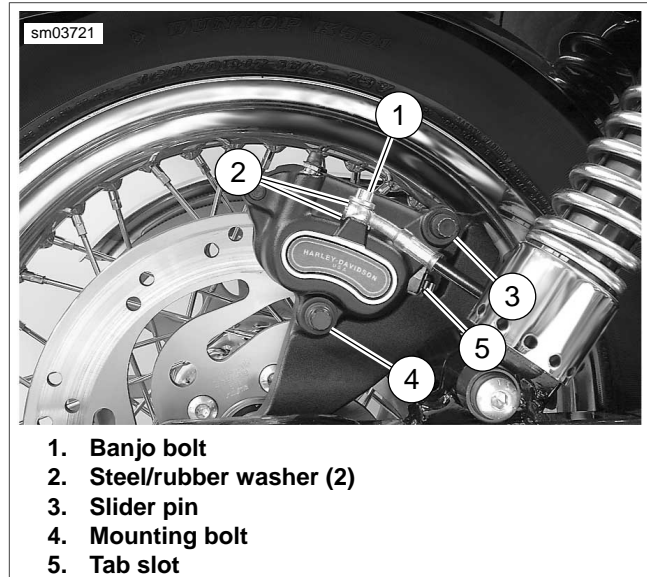

Figure 2-75. Rear Caliper
2. See Figure 2-75. Remove the banjo bolt (1) and both steel/rubber washers (2) to detach rear brake line from caliper. Discard washers.
3. Remove both the slider pin (3) and mounting bolt (4) (metric). Remove caliper assembly from brake disc.
3. See Figure 2-75. Install caliper with pads on caliper mount. Tighten slider pin (3) and mounting bolt (4) (metric) to 10-14 ft-lbs (13.6-18.9 Nm). Ensure tabs on brake pads engage slot (5) in caliper mount.